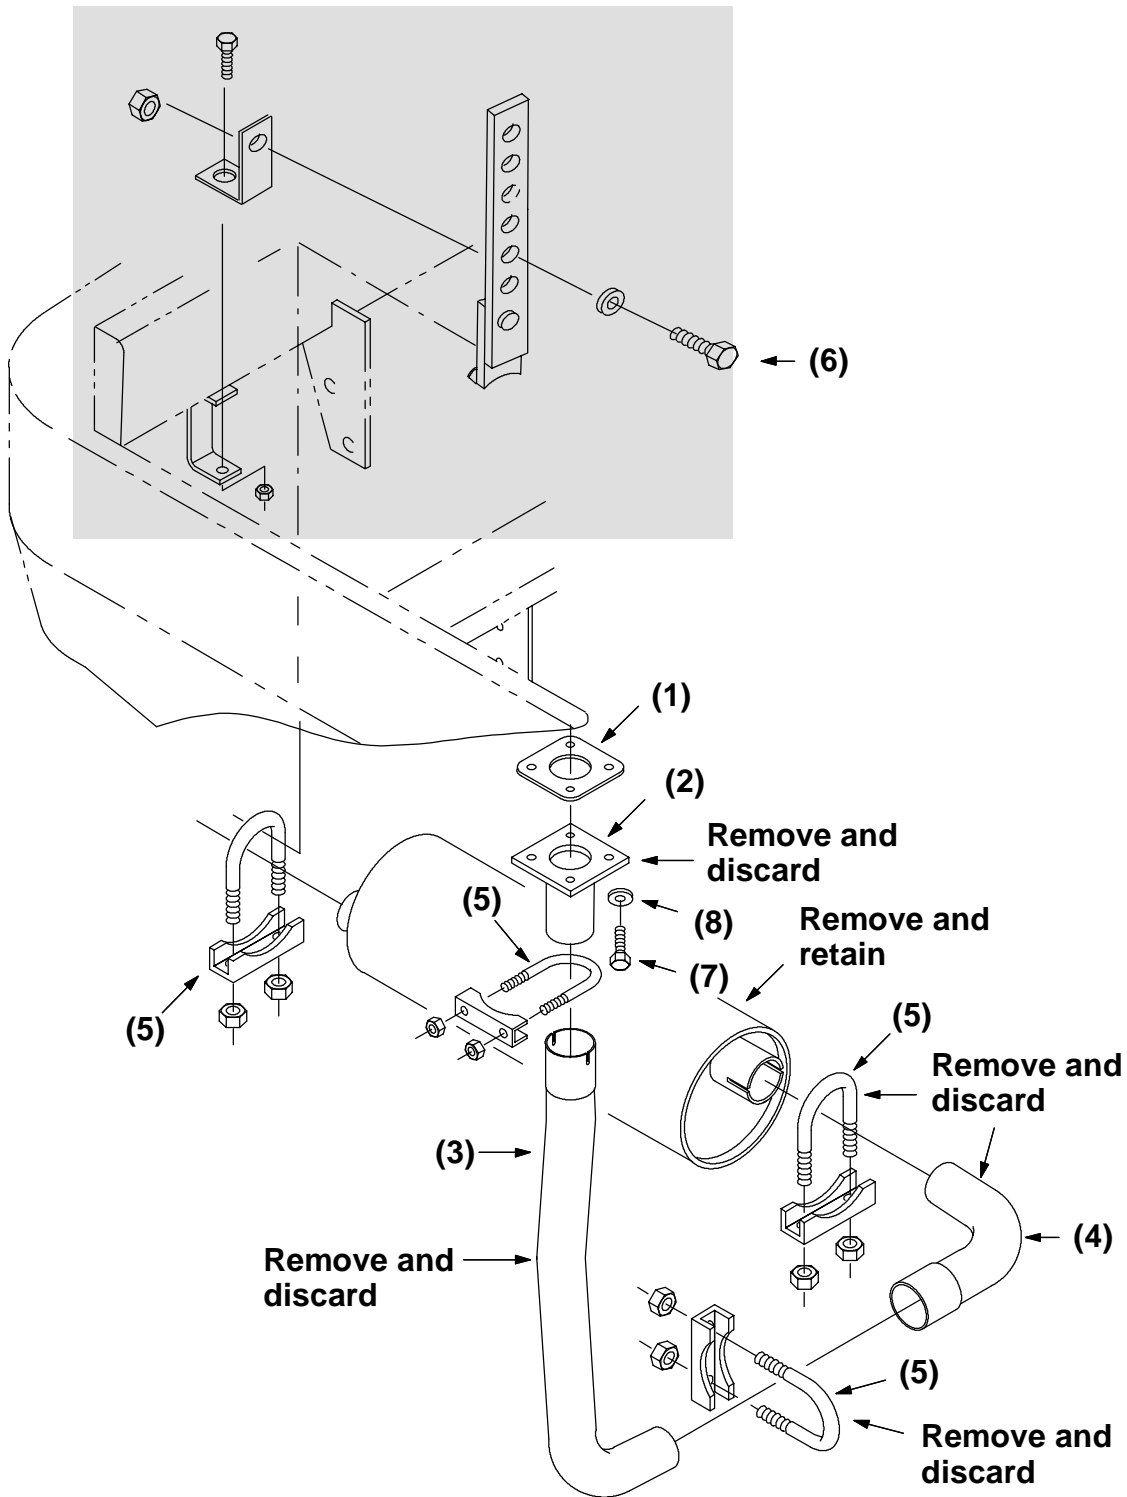

FIG. 1 - 385DLH Muffler, Tail Pipe, And Hanger Assembly
(Refer to FIG. 1)
2. Remove the four muffler clamps from the machine exhaust system. (Refer to FIG. 1)
3. Remove the muffler, lower exhaust pipe, and upper exhaust pipe. Retain the muffler and discard the two other pipes. (Refer to FIG. 1)
5. Install the new engine exhaust pipe (2) to the engine manifold. Use the four new hex screws (7) and flat washers (8). Tighten to 11 - 14 Nm. (Refer to FIG. 1)
6. Install the new upper exhaust pipe (3) on the new engine manifold (2). Loosely install one new muffler clamp (5). (Refer to FIG. 1)
7. Install the new lower exhaust pipe (4) on the new upper exhaust pipe (2). Loosely install one new muffler clamp (5). (Refer to FIG. 1)
8. Reinstall the old muffler on the new lower exhaust pipe (4). Loosely install one new muffler clamp (5). (Refer to FIG. 1)
9. Reinstall the muffler clamp on the outlet on the engine muffler. Firmly tighten all of the muffler clamps. (Refer to FIG. 1)
11. Start the machine and check the new exhaust system for proper operation. (Refer to FIG. 1)